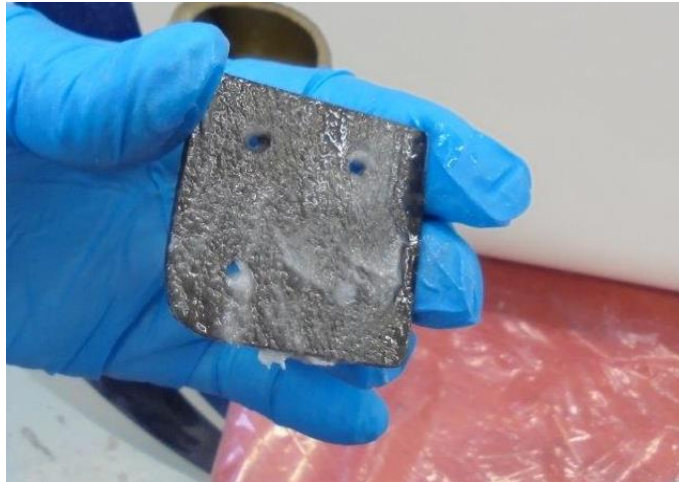

Figure 5: Thickened resin applied to CFRP repair plate
- 7.1.14 Apply thickened resin to the repair plate and to bonding area, refer to Figure 5.
- 7.2.14 Apply thickened resin to the repair plate and to bonding area, refer to Figure 5.